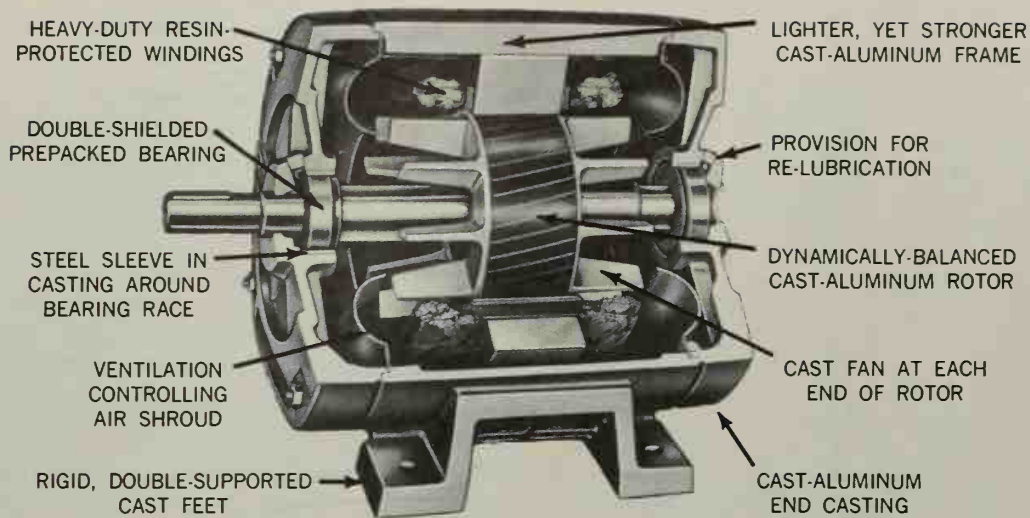

Fig. 11-21. Photo of a squirrel cage rotor in an induction motor. (W. W. Grainger, Inc.)
1. The SQUIRREL CAGE ROTOR will have heavy single copper wires imbedded in the iron core. See Fig. 11-21.